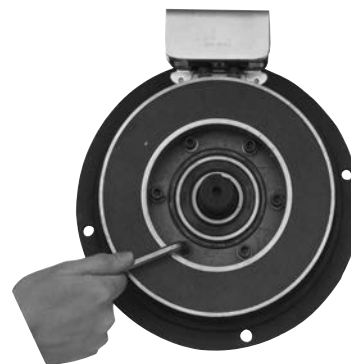

Figure 2
3. Once the mounting surface has been prepared, the magnet is bolted in place with capscrews and lock-washers. (See Figure 2.)